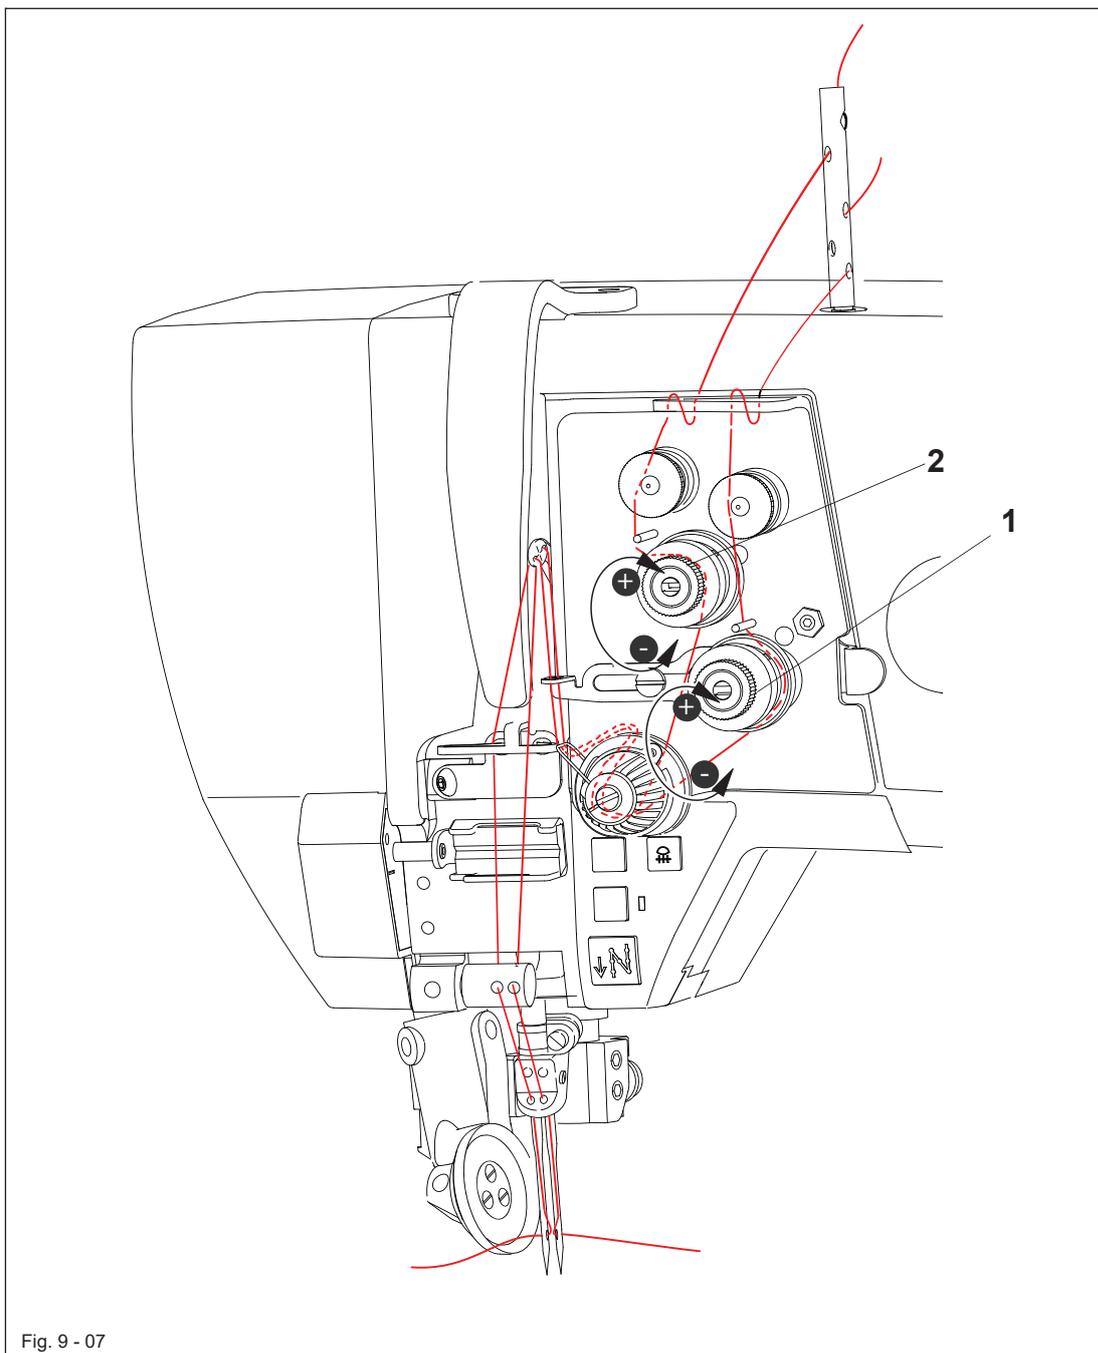

Fig. 9 - 07
- Thread the needle thread as shown in Fig. 9 - 06. Please ensure that the PFAFF 1571 needle is threaded from **right to left** and that of the PFAFF 1591;1593 is threaded from **left to right**.
- Thread the needle thread as shown in Fig. 9 - 07. Please ensure that the right needle is threaded from the left and the left needle is threaded from the right.